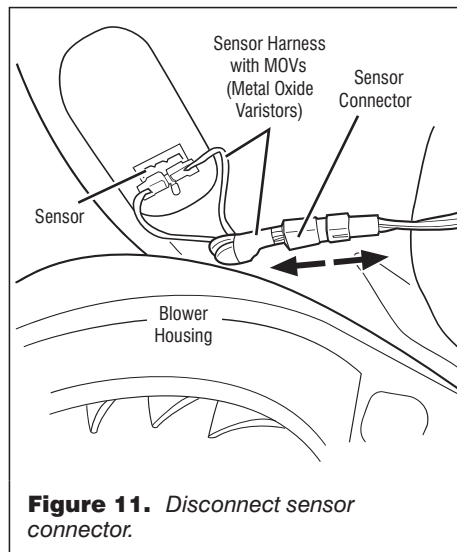

Figure 11. Disconnect sensor connector.
- Disconnect the sensor connector. See figure 11.